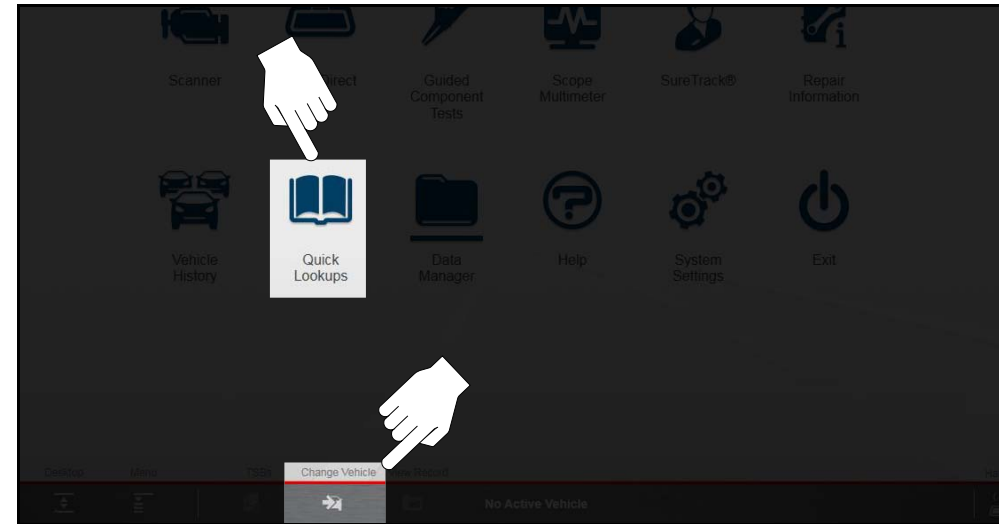

Figure 10-7 Quick Lookups Icon and Change Vehicle Icon
1. If needed, select the **Change Vehicle** icon (Figure 10-7), to clear the currently identified vehicle.
2. Select the **Quick Lookups** icon from the Home screen (Figure 10-7).